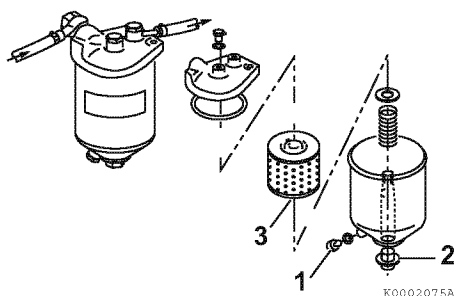

Figure 4
2. Loosen the drain plug (1, **Figure 4**) at the bottom of the fuel filter/water separator and drain off any water and dirt.
3. Remove the center bolt (2, **Figure 4**) to disassemble the fuel filter/water separator. Clean the element (3, **Figure 4**) inside with clean fuel.